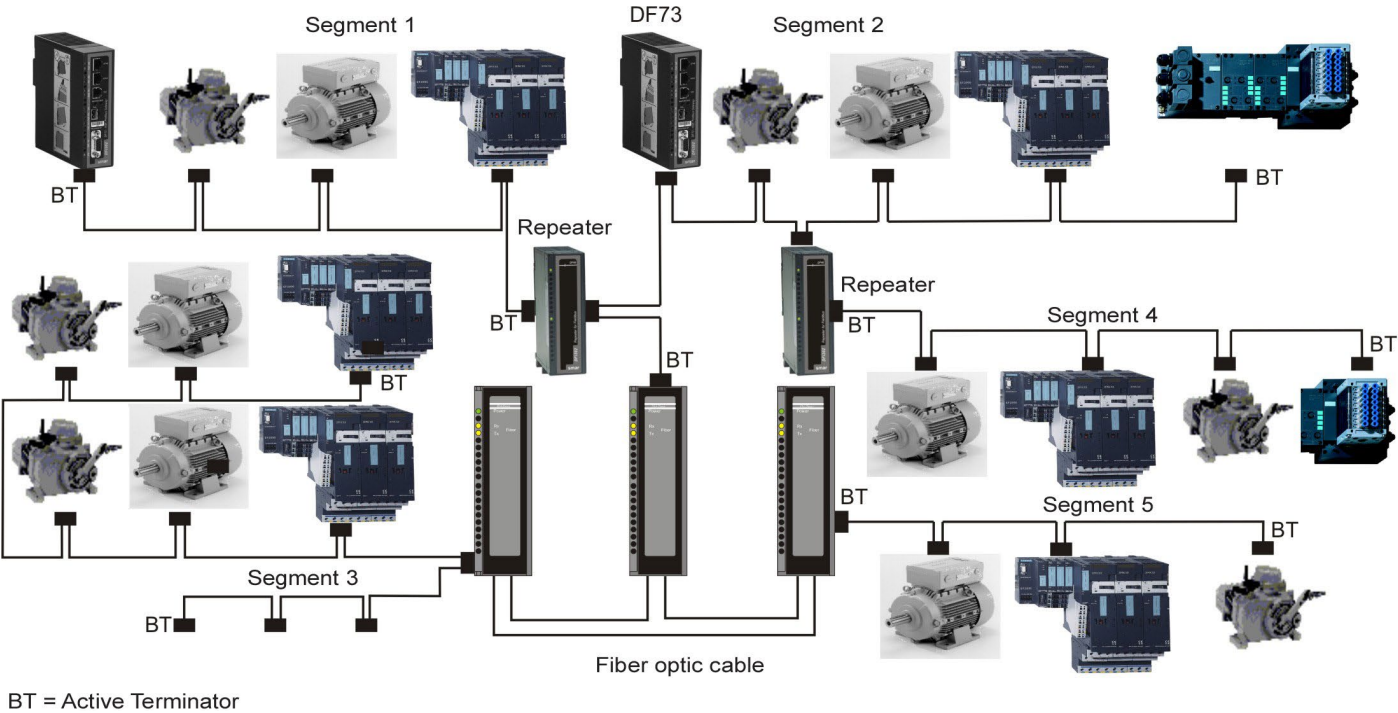

Figure 3.63 – Repeater, Terminators and Optical Links
- An optical link is customarily used. If applicable, be always alert when using optical repeaters. See Figure 3.63.